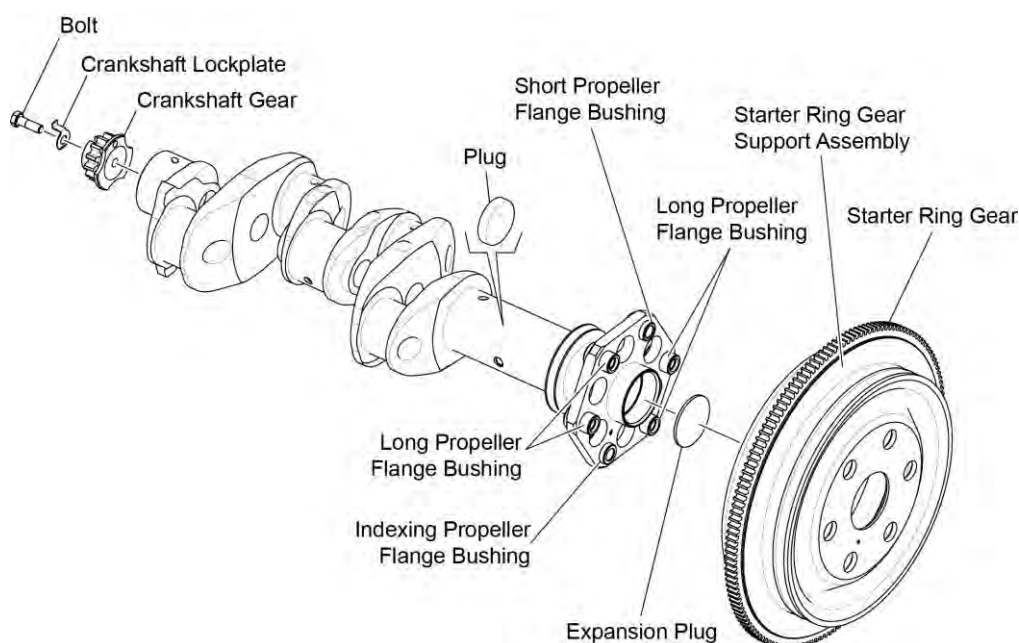

Figure 21
- C. If installed, remove the larger expansion plug and inner plug (Figure 21) from the crankshaft by punching a 1/8 in. (3.175 mm) to 3/16 in. (4.763 mm) hole in the center of the plug. Use a hook or bent rod to pull out the plug. Remove any little pieces of plug remnants. Discard the expansion plug and inner plug.